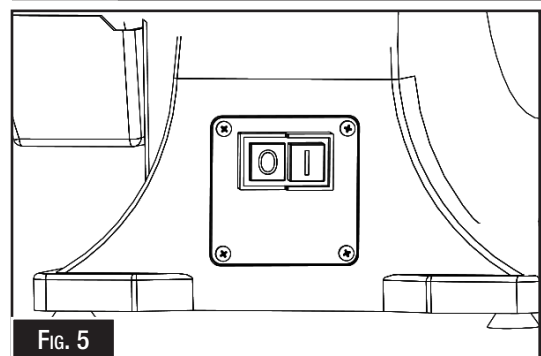

FIG. 5
- The grinder can run either forwards or backwards, selectable via a 3-position rocker switch. (Fig. 5)